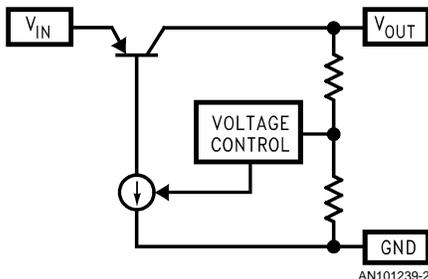
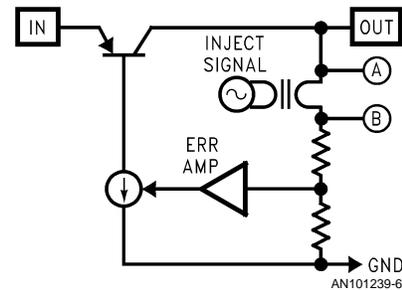

FIGURE 2. PNP LDO REGULATOR
FIGURE 6. LOOP GAIN EXAMPLE
In the low-dropout (LDO) regulator, the pass transistor is a single PNP transistor (Figure 2). The big advantage of the LDO is that the PNP pass transistor can maintain output regulation with very little voltage drop across it:
back signal experiences as it travels through the loop. The block diagram of the LDO in *Figure 2* will be redrawn to illustrate this concept (*Figure 6*).
**Feedback** is used in all voltage regulators to hold the output voltage constant. The output voltage is sampled through a resistive divider (*Figure 6*), and that signal is fed back to one input of the error amplifier. Since the other input of the error amplifier is tied to a reference voltage, the error amplifier will supply current as required to the pass transistor to keep the regulated output at the correct DC voltage.
The PNP transistor in an LDO regulator (Figure 2) is connected in a configuration called **common emitter**, which has a higher output impedance than the common collector configuration in the NPN regulator. This adds an additional low-frequency pole **whose frequency is dependent both on load resistance and output capacitance**. The frequency of this pole (which will be designated  $P_L$  for **load pole**) is found from: